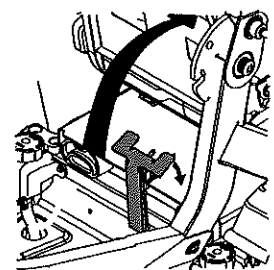

Figure 20
- Rotate the entire seat pan upward. See Figure 20.